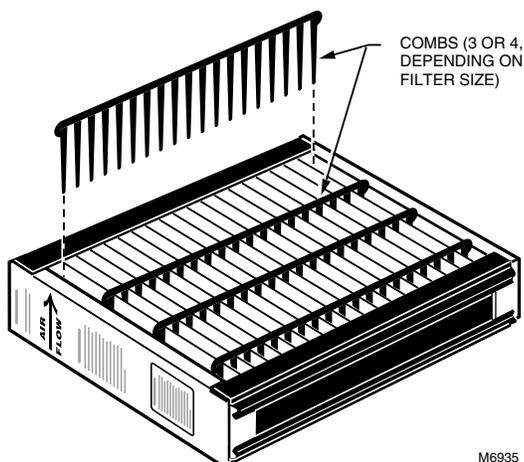

Fig.15. Insert combs in media filter.
5. Lay the filter assembly down flat so the arrows point up. Insert the combs as shown in Fig. 15, aligning them with the notches in the end panel flanges. Make sure the combs are inserted completely.
4. Insert one end panel tab into the retainers on the frame. Fold in the end panel flanges and push the tab completely in, making sure the end panel flanges are inside the frame flanges. See Fig. 15.